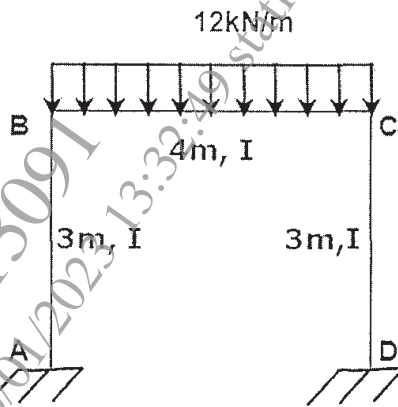

Figure 6
- Q4) a) Calculate final end moments for the frame shown in Fig. 6 by moment distribution method and draw BMD. [12]